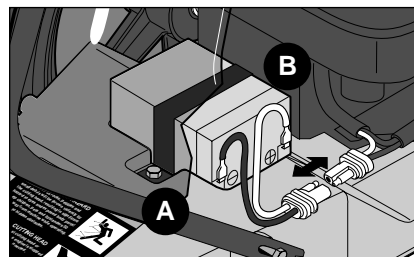

Figure 5-16: Battery replacement.
C. Two bolts (A and B, Figure 5-16) secure the battery to the deck. Remove bolt A, then work the battery from under the battery clamp.